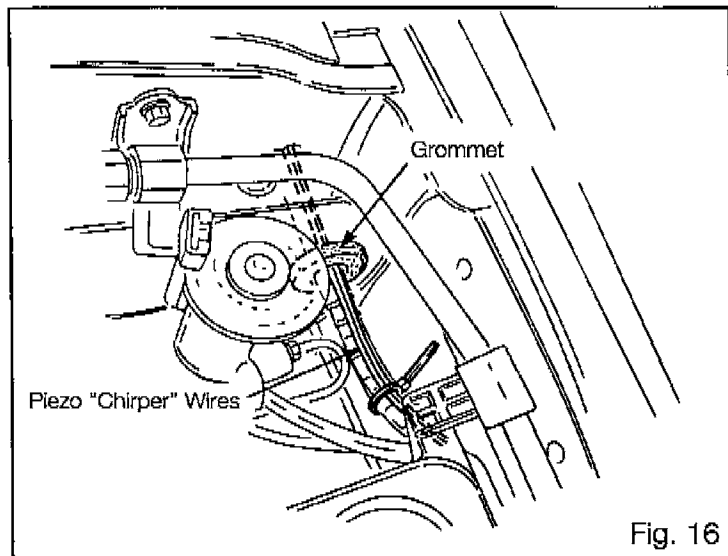

Fig. 16
- (3) Route the Piezo "Chirper" RED and BLACK wires through the grommet on top of the heater control cable. Fig 16